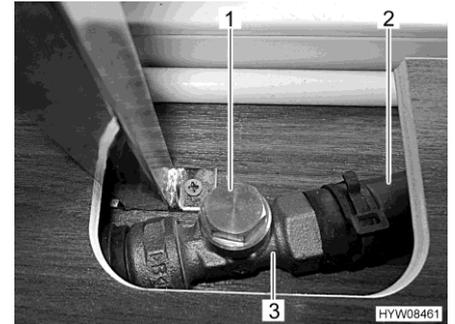

Fig. 173 Throttle (open)
- Touch the bypass line (Fig. 173,2) behind the throttle (Fig. 173,3). The pipe must be warm to the touch.